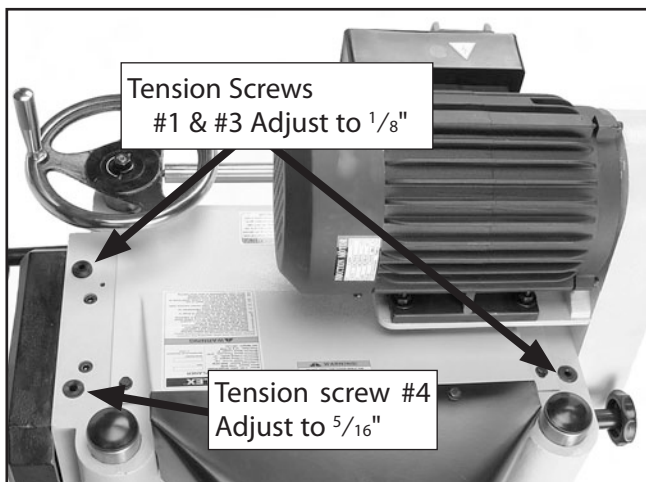

Figure 42. Tension screws 1, 3, and 4.
1. Locate the four tension screws located on the top of the planer, as shown in **Figure 42 & 43**.